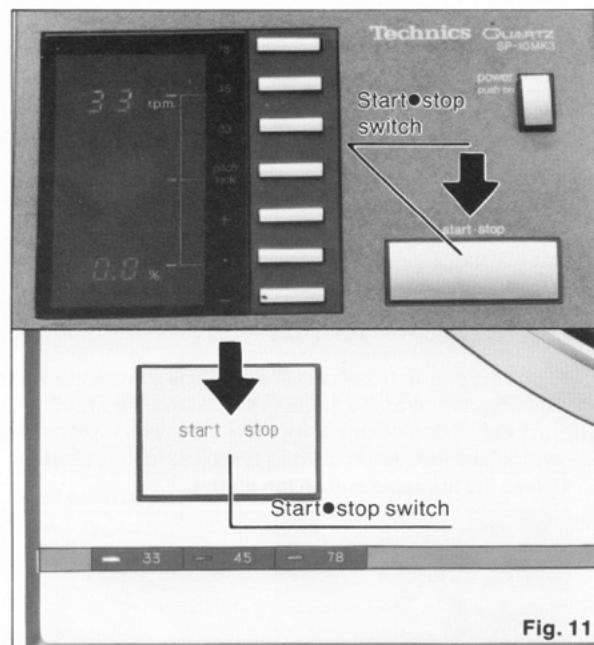

Fig. 11
3. Press the start•stop switch. (Fig. 11)